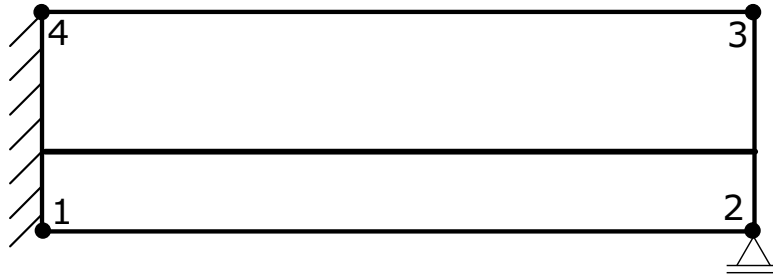

Figure 4: Sketch of the displacement field
- d) Draw the displacement field in Figure 4!